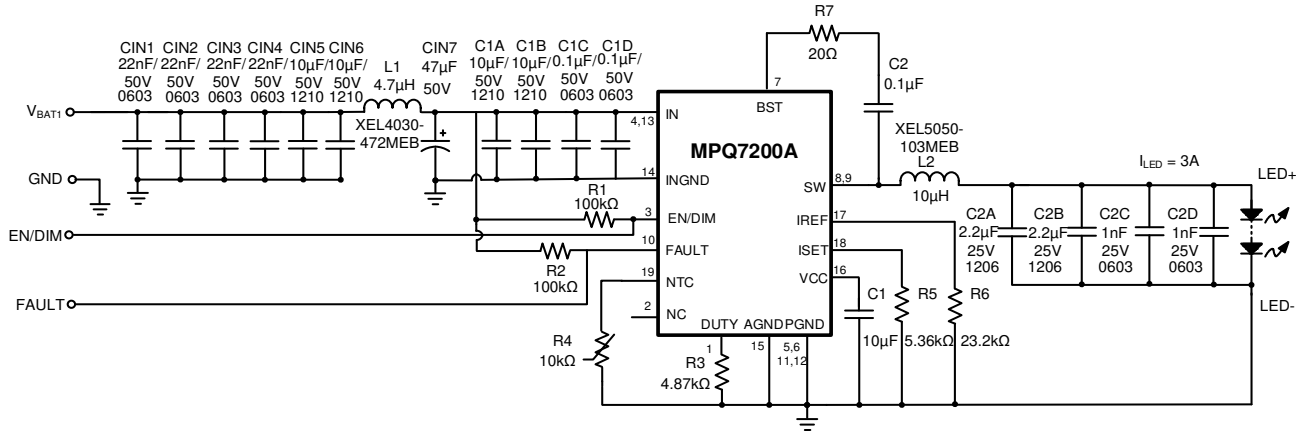

Figure 9: $I_{LED} = 3A$ Buck Application Circuit (No Two-Step Dimming)
- 16) The recommended layout is based on Figure 9 on page 54.